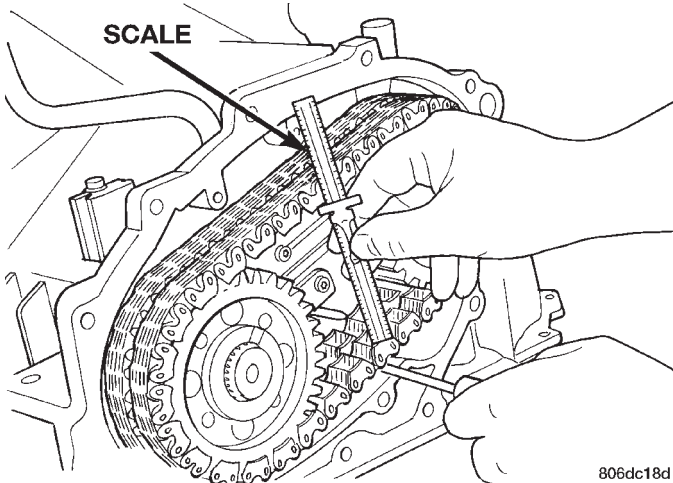

Fig. 353 Chains Measurement
- (5) Pry the chains up at the center of the chain.
- (6) Butt a scale against the snubber and place a second mark on the scale at the bottom of the chains (Fig. 353).